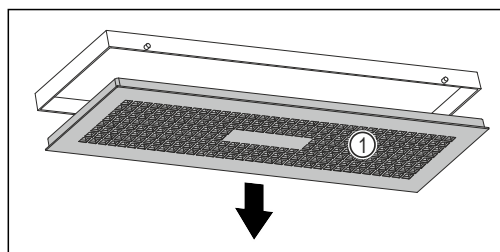

Fig. 123
- Slowly turn the water box down while holding the cover Fig. 123 (1).
- Remove the cover Fig. 123 (1).